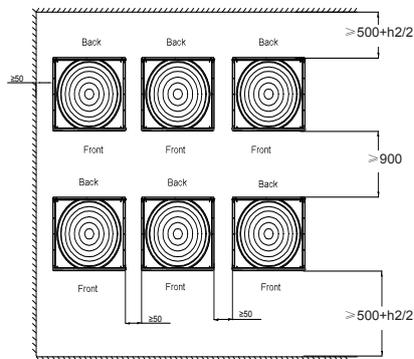

Figure 7
- Obstacles in the front, back and one side, back-to-back mounting 1 (see Figure 7)